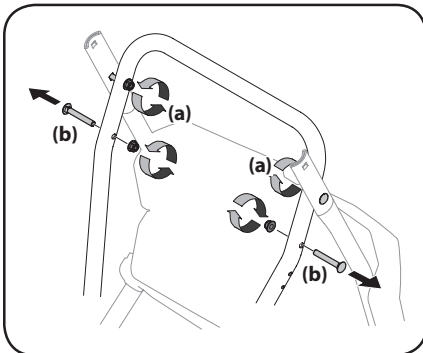
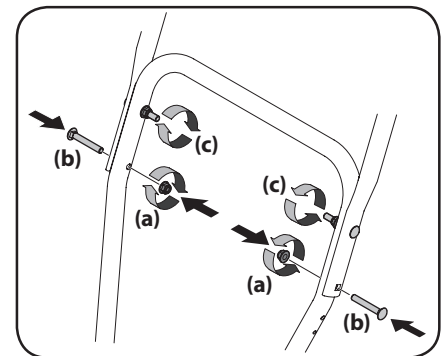

Figure 2-2
Figure 2-6
2. Loosen the top two lock nuts (a) securing the upper and lower handle and remove the two carriage screws (b) from the lower handle and set aside as shown in Figure 2-2.
7. On units with the handle set-up shown in Figure 2-2, attach the two carriage screws (b) and lock nuts (a) removed in Step 2. Finish securing the handle by tightening the top two lock nuts (c) loosened in Step 2. See Figure 2-6.